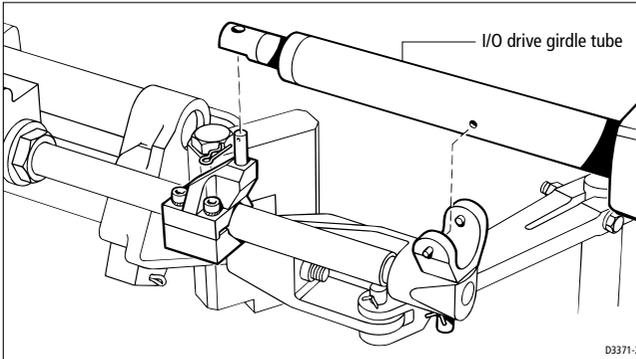

Figure 9: Fitting the I/O drive unit (MerCruiser 93/OMC/Yamaha)
3. Fit the I/O drive into the girdle support bracket (see *Figure 9*):